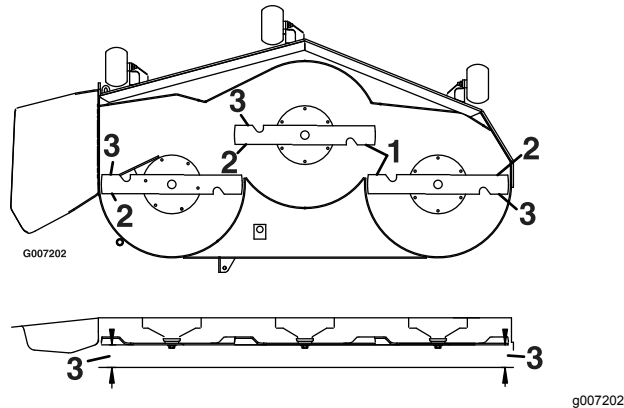

Figure 75
7. Measure between the blade tip and the flat surface (Figure 75). If both measurements are not within 5 mm (3/16 inch), adjust the leveling; continue with this procedure.
13. Carefully rotate the blades side to side (Figure 75).